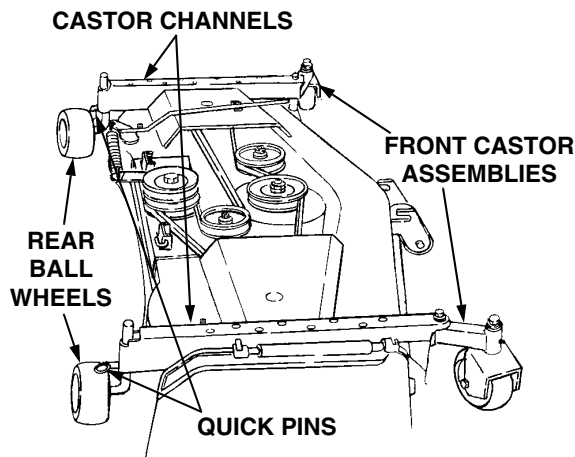

Figure 27
2. To aid in sliding the deck under the tractor, reposition all four ball wheels as shown in Figure 27. To reposition the rear wheels; remove the quick pins, rotate the rear wheels 90°, and raise them to their uppermost position in the castor channels. Install the two quick pins in the rear holes of the castor channels to secure the rear wheels in this position. Temporarily remove the quick pins and rotate the front castor assemblies outward. The deck should now rest in its lowest position on the surface below.